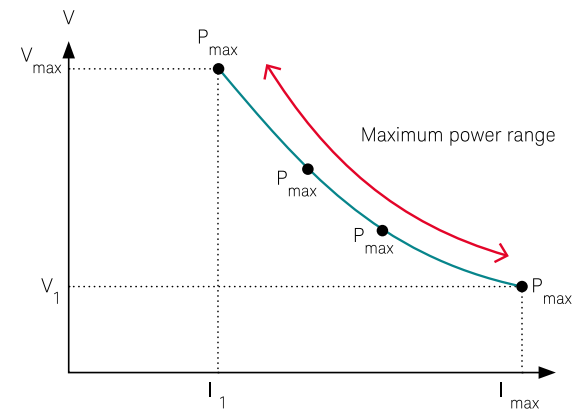

Figure 7. An auto-ranging output characteristic provides the most voltage-current combinations
3. **Auto-range output:** An auto-range output provides the most flexibility in voltage and current combinations, allowing more combinations within the power limit of the supply; see Figure 7.